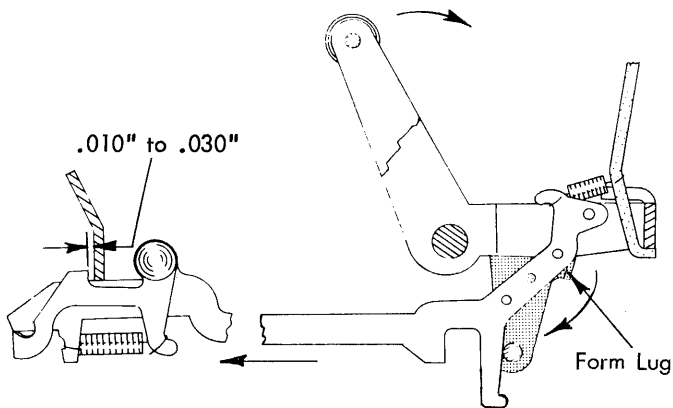

FIGURE 165. Interposer Restoring Bail Adjustment
8. Interposer Restoring Bail - Form the lug at each side of the restoring bail so that the interposers will be restored forward .010" to .030" past the latching point (Fig. 165) when either cam is operated. Be sure to check the interposers at each side and form the lug on the side being checked.